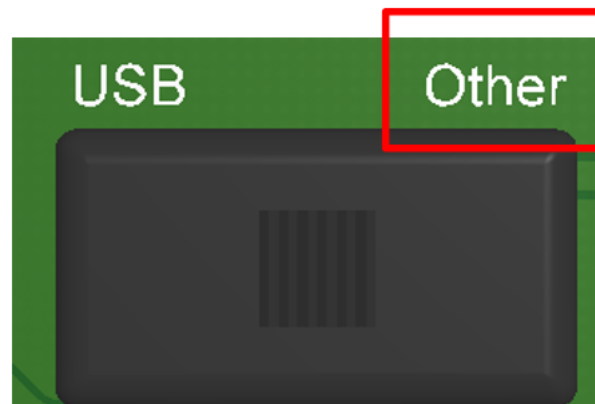

Figure 45. USB vs Other = 'Other'
- If you are going to power the programming board with an external power supply or wall socket then set the switch to the “Other” state as shown in Figure 45